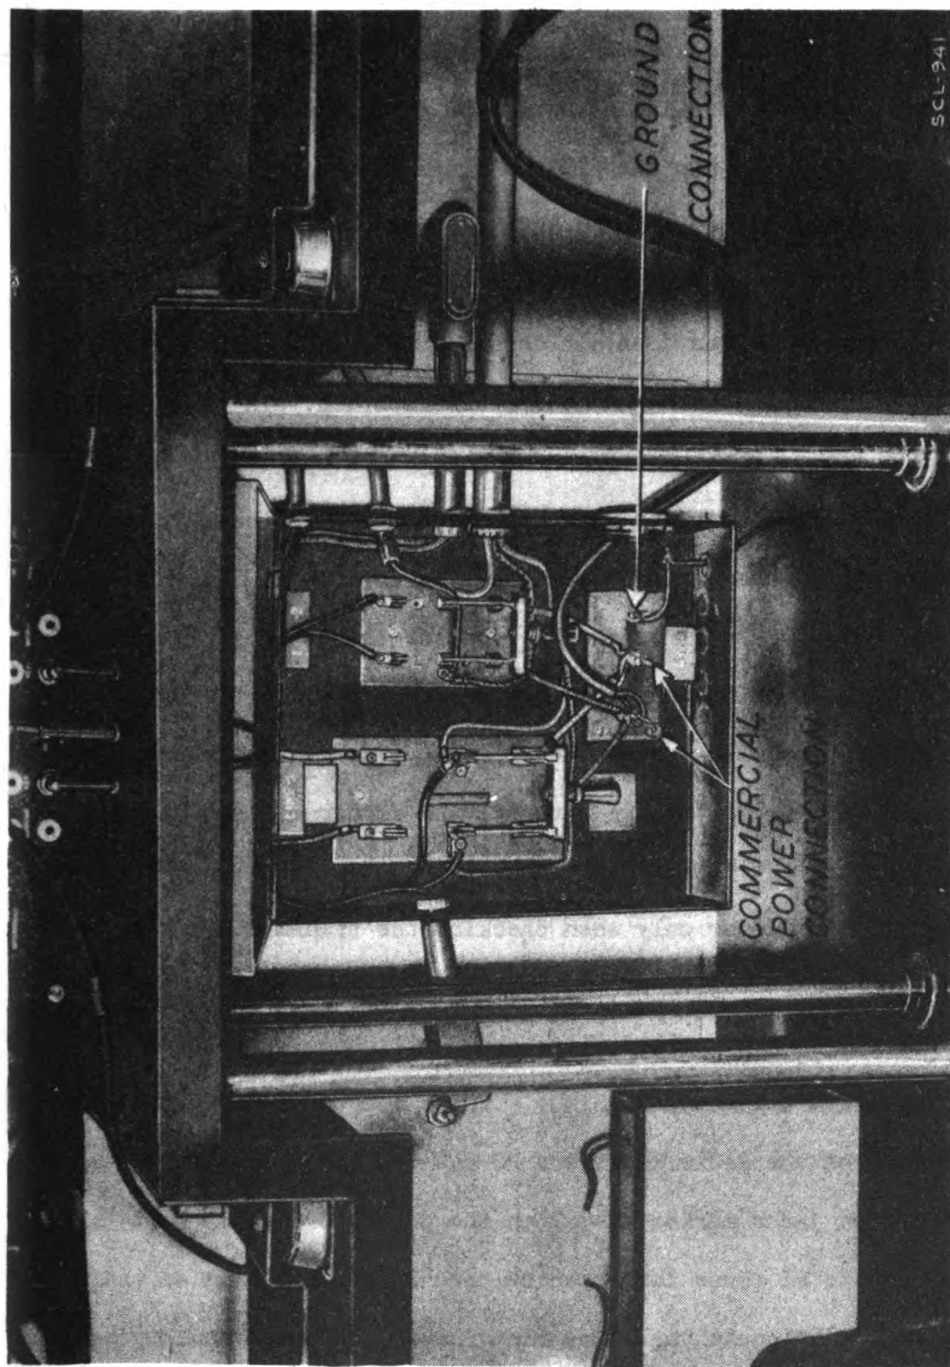

Figure 8. - Close-up of the power entrance box, located under the operating table of Trailer K-19-(\*).
21. TRAILER K-19-(\*). ANTENNA AND POWER REQUIREMENTS. - as stated in paragraph 20, the trailer will be towed by Truck K-19-(\*) to the receiving location and uncoupled. Erect the three receiving antennas on the three Mast Bases MP-14 installed at the front end of the trailer. Drive the Stake GP-8 into the ground near the front of the trailer and connect the wire from the stake to the ground connection in the power entrance box located on the front wall of the trailer beneath Radio Receivers BC-342-(\*). When thrown in the UP position, the double-pole, double-throw knife switches located in the power entrance box connect the electrical equipment in the trailer to the emergency generator power plugs on the front of the trailer. When thrown in the DOWN position, the electrical equipment in the trailer is connected to the commercial power line, which should be attached to the two connections in the lower left part of the entrance box. (See Fig. 8.) The heaters in the trailer are on separate circuits. When using emergency power, one heater operates from one Power Unit PE-75-(\*), and the other heater operates from the remaining Power Unit PE-75-(\*). Thus, both emergency power units must be operated to obtain the full heating possibilities of the trailer.